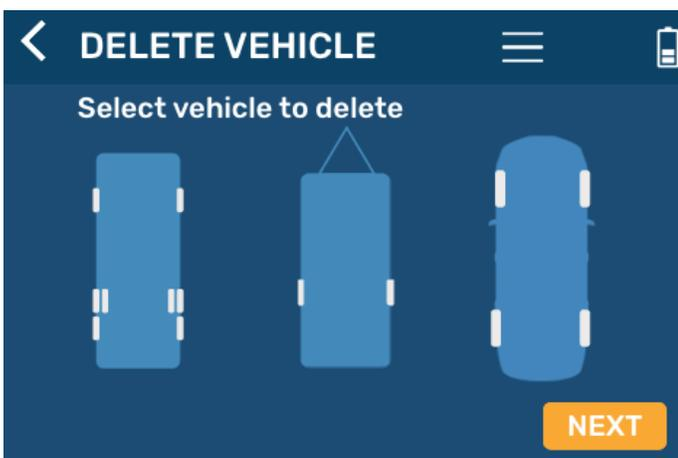

Fig.33
2. Select a vehicle to delete (Fig.33) and tap NEXT.